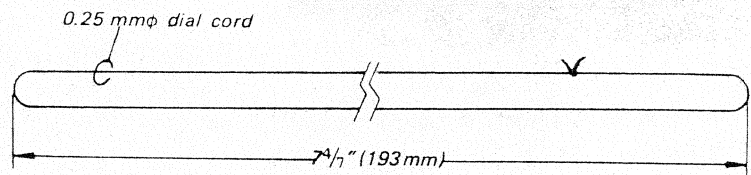

Fig. 2-21 Tuning dial cord
1. Make a loop of the cord as shown in Fig. 2-21.